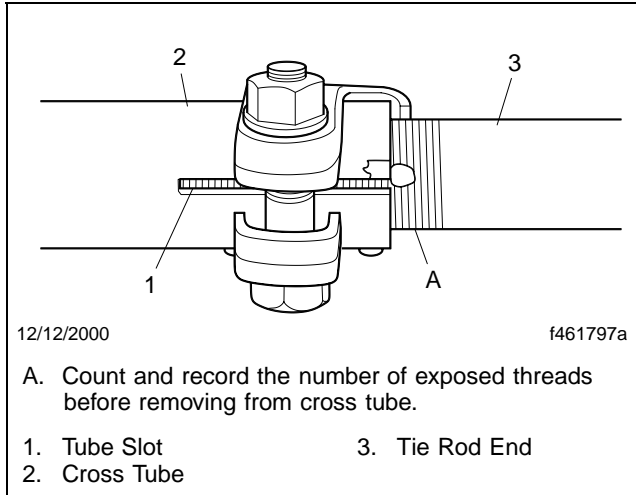

Fig. 3, Bottom View of Tie Rod End and Cross Tube
2. Mark the installed position of each tie rod end and count and record the number of threads that appear outside of the cross tube. See **Fig. 3**.